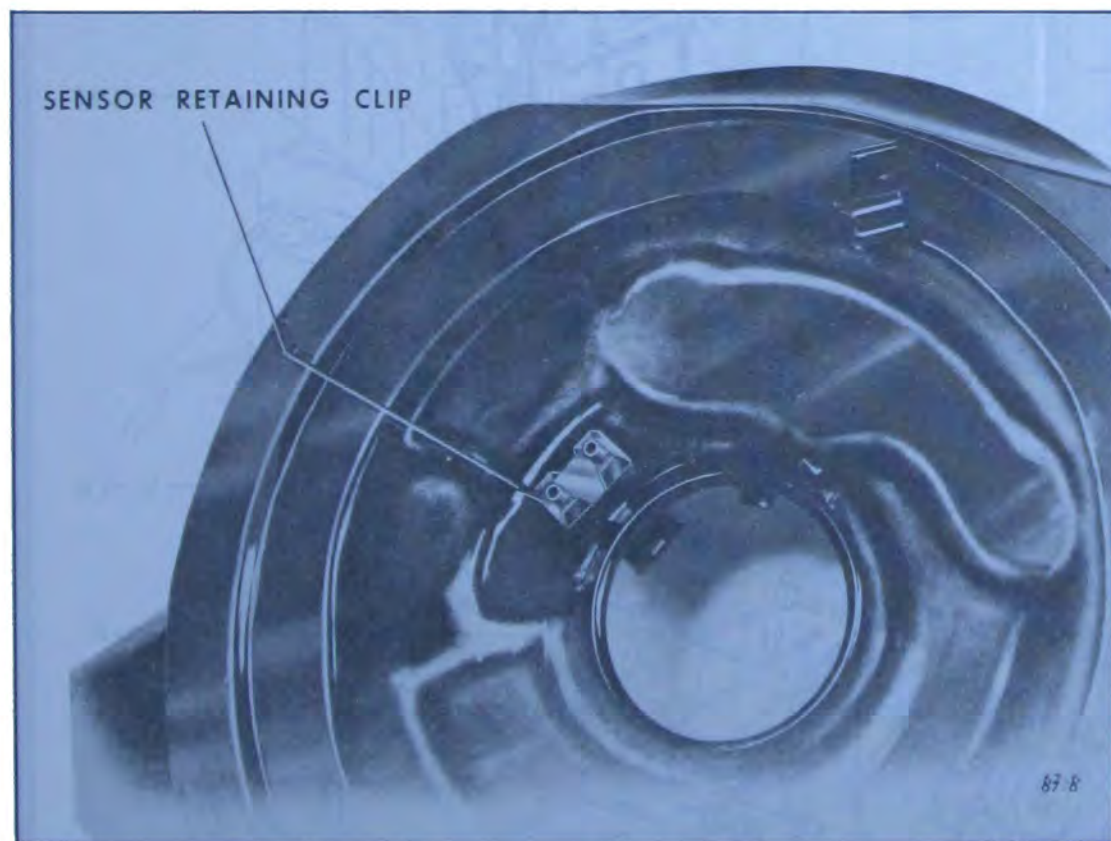

Figure 67-6—Replacing Sensor Assembly
1. Remove two sensor retaining clips by prying. See Figure 67-6.